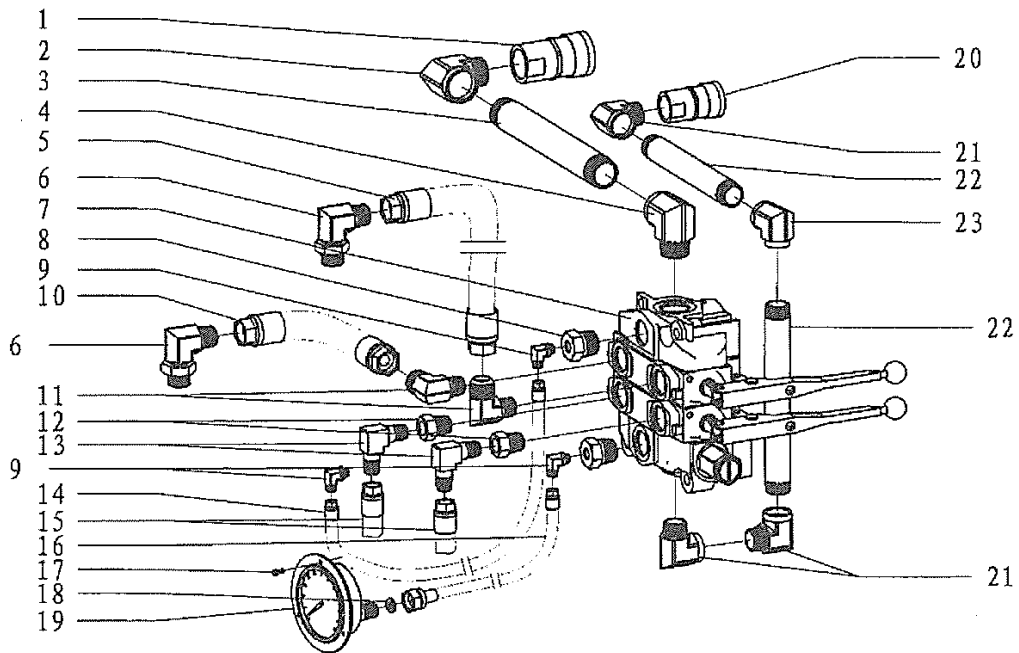

Fig9.
8.8 Hydraulic combination valve and tube (Fig9. Table9)